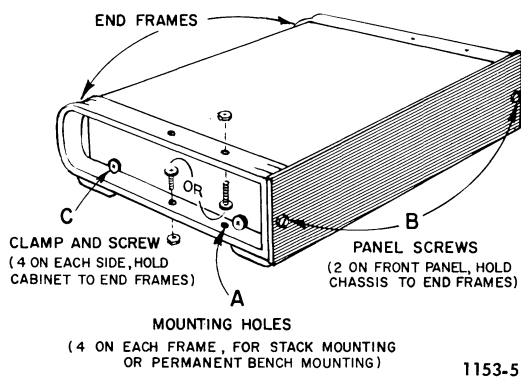

Figure 2-3. Bench mounting the Type 1394-A.
2.3.2 BENCH MOUNTING (Figure 2-3).